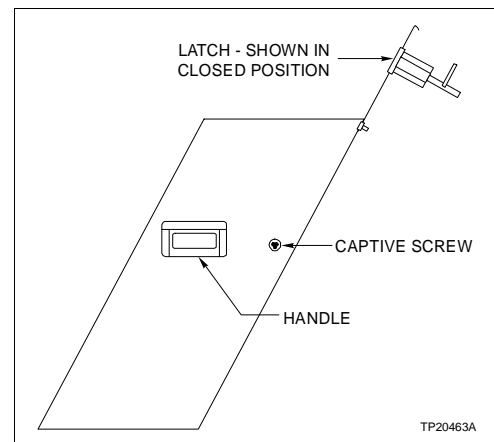

Figure PR73-1. Pedestal Cover Installation
- 1. Be sure the latches are in the open position ($\frac{1}{2}$ -turn from closed position as shown in Fig. PR73-1).